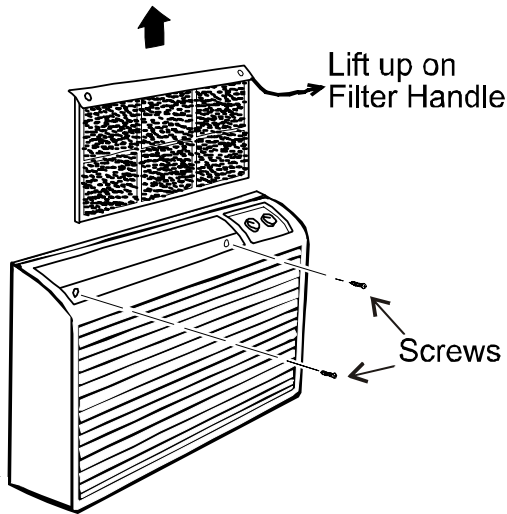

Figure 2
1. Remove the filter by lifting up (Figure 2).
2. Remove the two screws attaching the front to the chassis. See Figure 2.